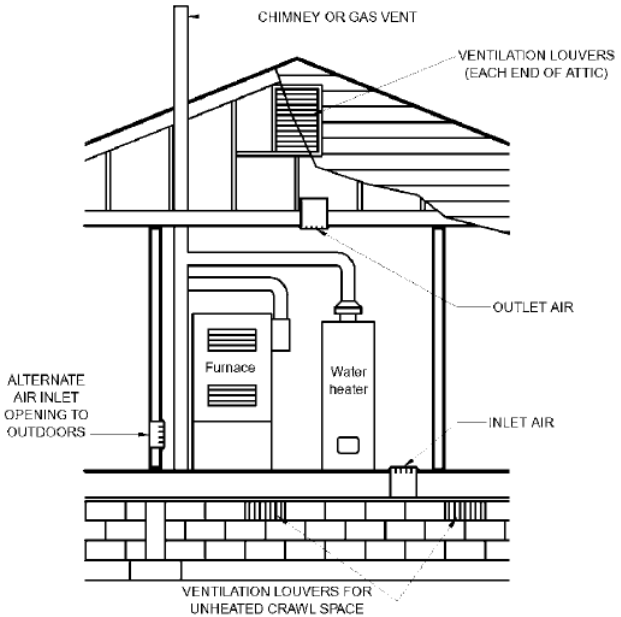
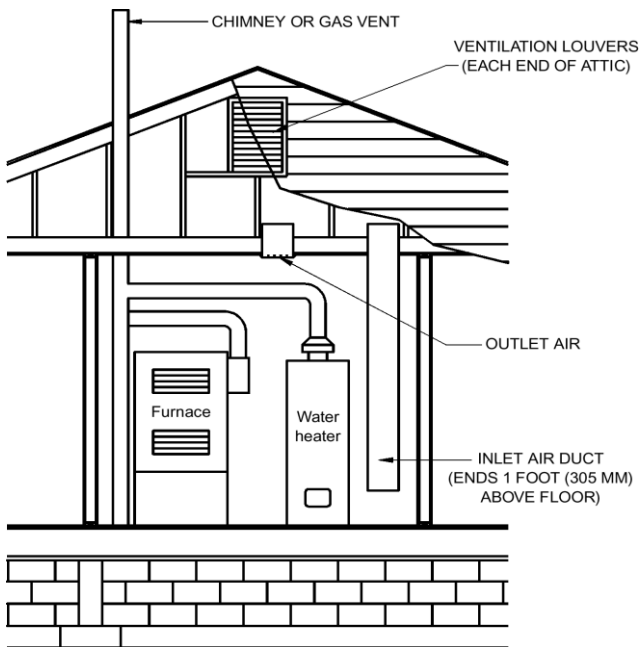

Figure 7: Inlet Air from Ventilated Crawl
Figure 8: Outdoors through Ventilated Attic
- 1) Vertical or Direct (1-4,000). When directly communicating through an outside wall or by vertical ducts, each opening shall have a minimum free area of 1 square inch per 4,000 Btu per hour of total input rating of all equipment in the enclosure. (See **Figure 7** and **Figure 8**)